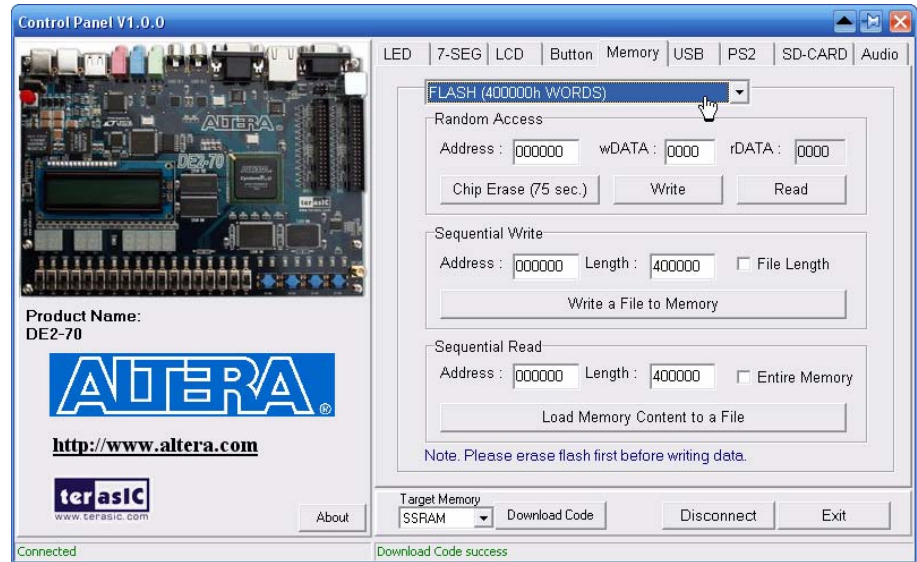

Figure 2.2. Accessing the Flash.
5. Switch to the Memory tab in the Control Panel and select "FLASH" memory type as shown in Figure 2.2